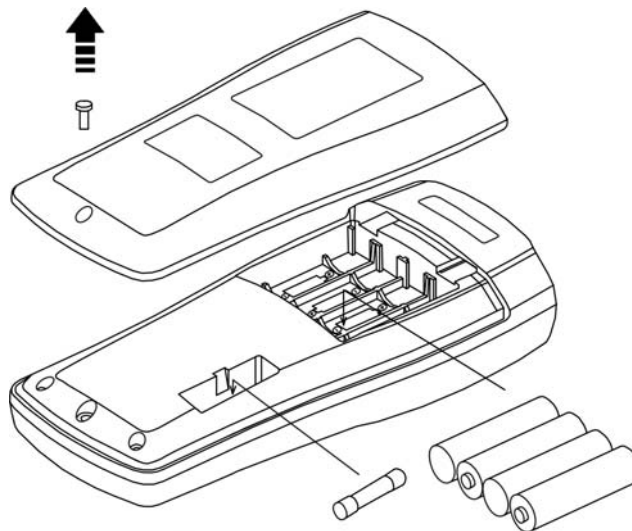

Fig. 11: Replacing the batteries and the internal fuse
3. Remove the batteries and insert the same number of batteries of the same type (see § 6.1.3) respecting the correct polarity, then restore the battery compartment cover (see Fig. 11). Use the relevant containers for battery disposal.